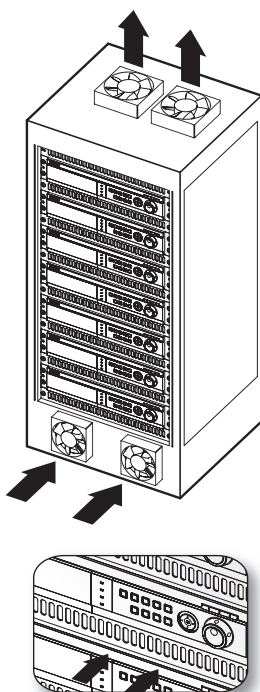

Figure 2
3. As shown in the Figure 2, we recommend you to heap the product with other DVRs or use rack-mount devices at a certain space, or install a vent system to accommodate airflow.